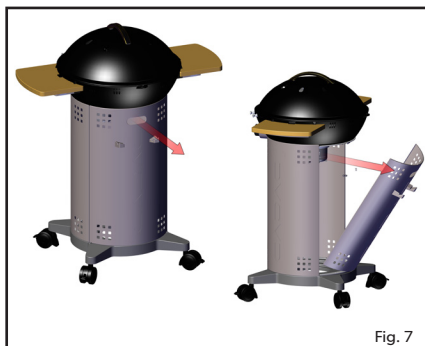
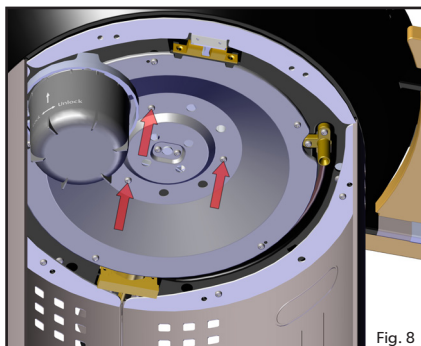
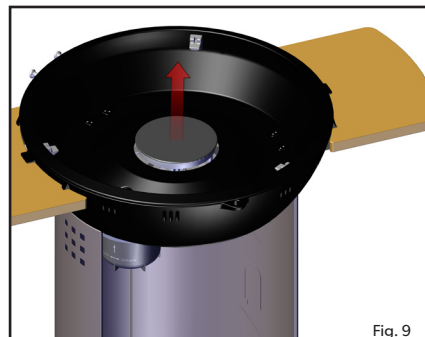
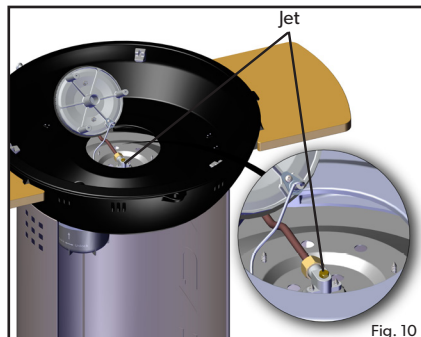

Fig. 7
Fig. 8
Fig. 9
Fig. 10
- **To replace the jet:** Pull the back panel out using the handle (Fig 7) Remove the dome, BBQ grid, pot stand and any other loose items from the appliance. Now unscrew the 3 screws from underneath the appliance as shown in Fig 8, this will loosen the burner. Now remove the burner gently by lifting it out (Fig 9), NOTE that it is attached to the piezo ignition wire. DO NOT yank the burner out otherwise you risk snapping the piezo ignition wire from your appliance. Gently lay the burner to the side, this will reveal the jet (Fig 10). The jet can now be removed using a suitable spanner. Do not use pliers on the jet as this may damage the jet, making it unusable or impossible to remove. Screw the new jet into the valve. Do not over tighten as this may damage the jet.